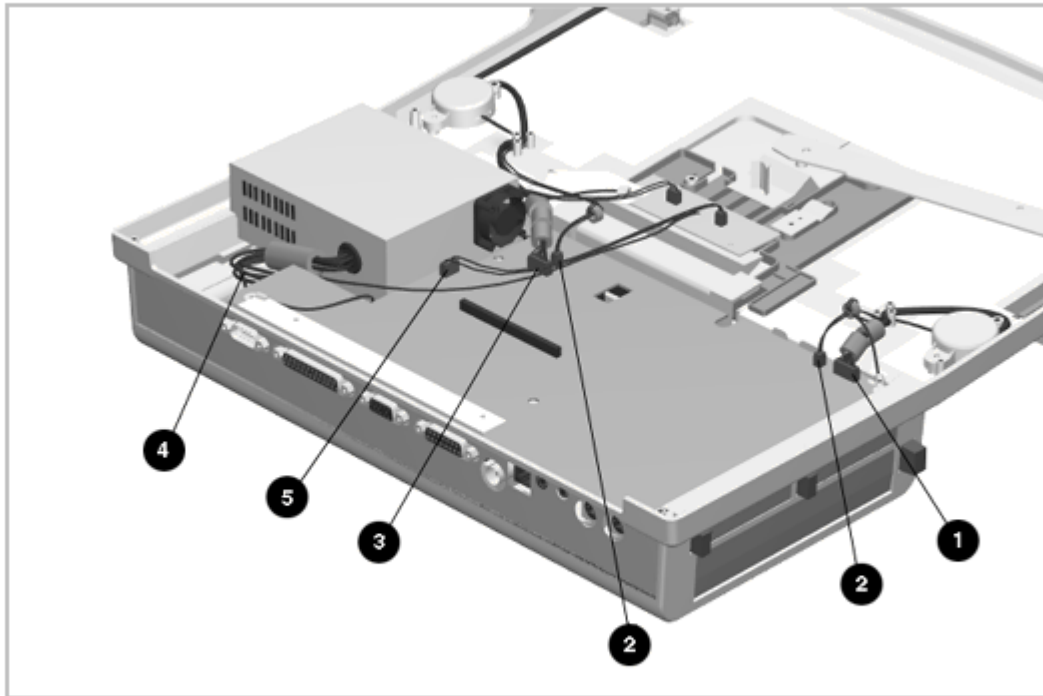

Figure 6-15. Disconnecting and Removing the Main Board Cables
4. Note the routing of all cables and disconnect the power cable [1], speaker cables [2], IrDA cable [3], power supply cable [4], and cable [5] (Figure 6-15).